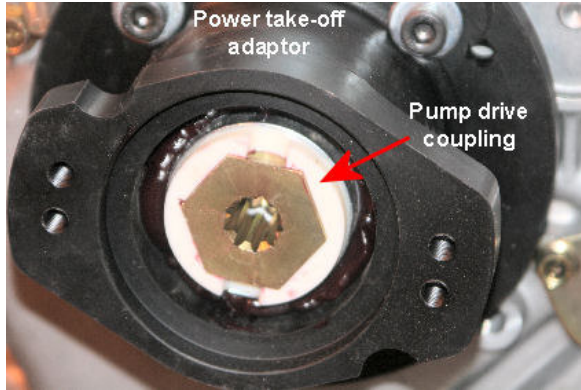

Fig 5-20 Pump drive coupling
3. Pull off the power take-off adaptor (Fig 5-20). This will pull off the pump drive coupling